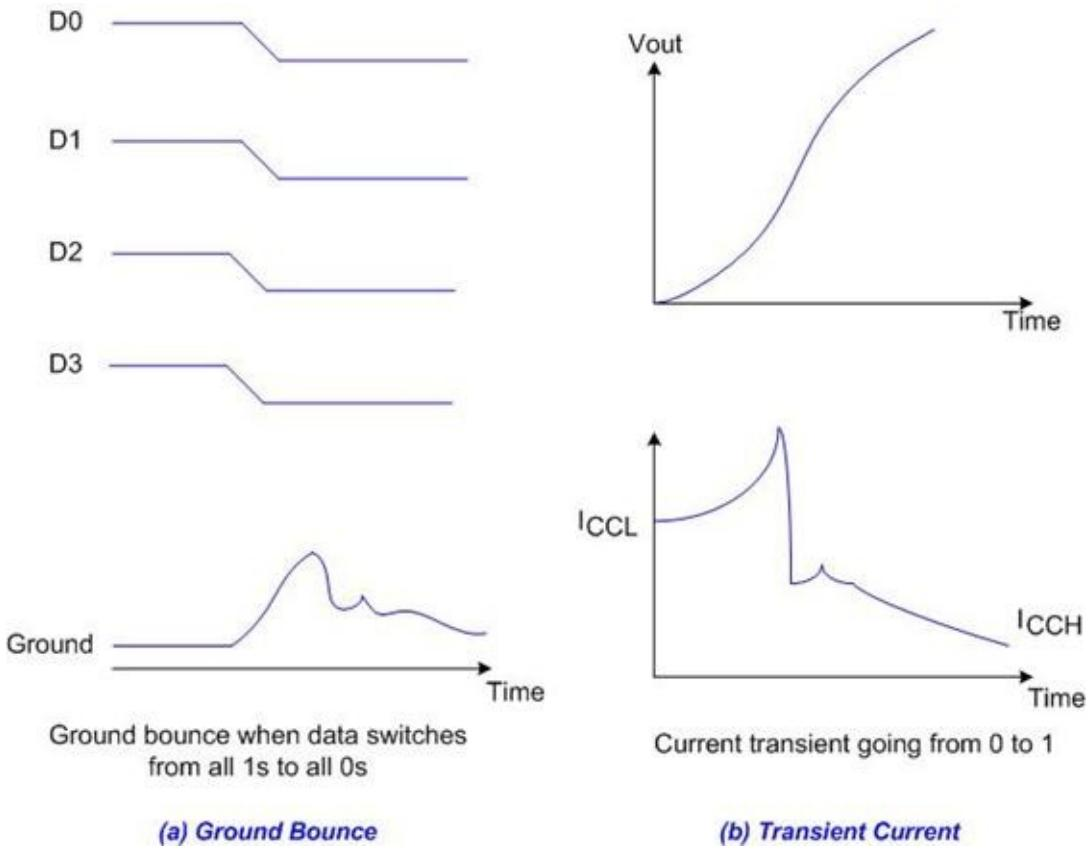

Figure A-10: (a) Ground Bounce (b) Transient Current
2. Use logics with a minimum number of outputs. For example, a 4-output is preferable to an 8-output. This explains why many designers of high-performance systems avoid using memory chips or the drivers and buffers of 16- or 32-bit-wide outputs since all the outputs switching at the same time will cause a massive flow of current in the ground pin, and hence cause ground bounce (see Figure A-10).
and saturated, whereas Q3 is off. By changing the output from the low to high state, Q3 becomes on and Q4 becomes off. It is faster to turn a transistor on than turn a transistor off. This means that there is a time that both transistors are on and drawing currents from the  $V_{CC}$ . The amount of current depends on the  $R_{ON}$  values of the two transistors, and that, in turn, depends on the internal parameters of the transistors. However, the net effect of this is a large amount of current in the form of a spike for the output current, as shown in Figure A-10.